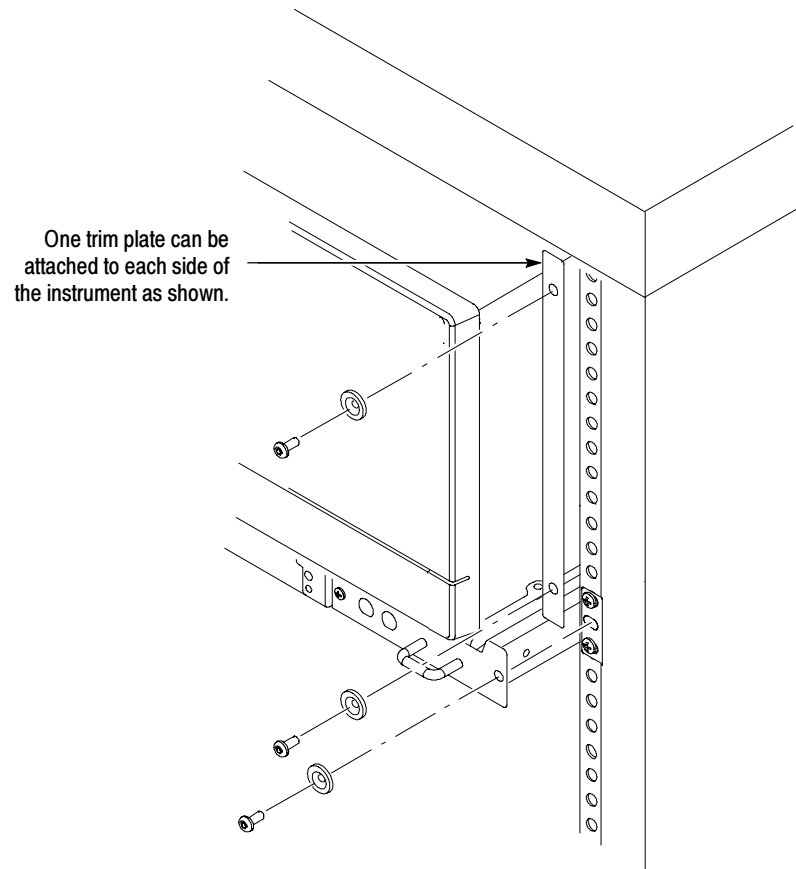

Figure 9: Installation of trim plate
8. Install the appropriate trim plates as shown in Figure 9.